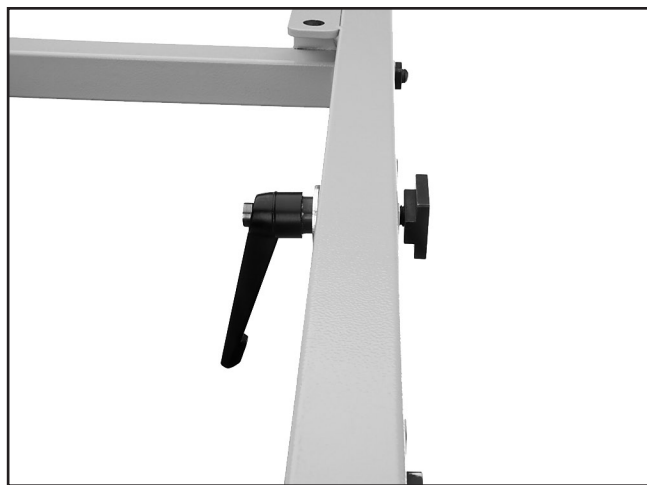

Figure 33. Installing the adjustable handle.
1. Thread the M12-1.75 x 55 adjustable handle, with a 12mm flat washer, through the crosscut table and into a M12-1.75 T-nut as shown in **Figure 33**.